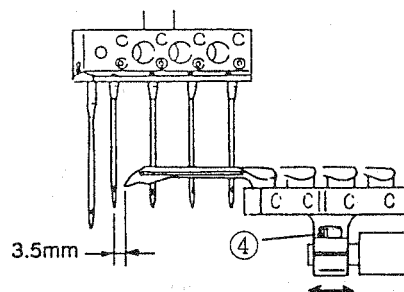

Fig.12
(Figs. 12 - 17)
(1) To adjust the looper setting distance (Fig. 12)